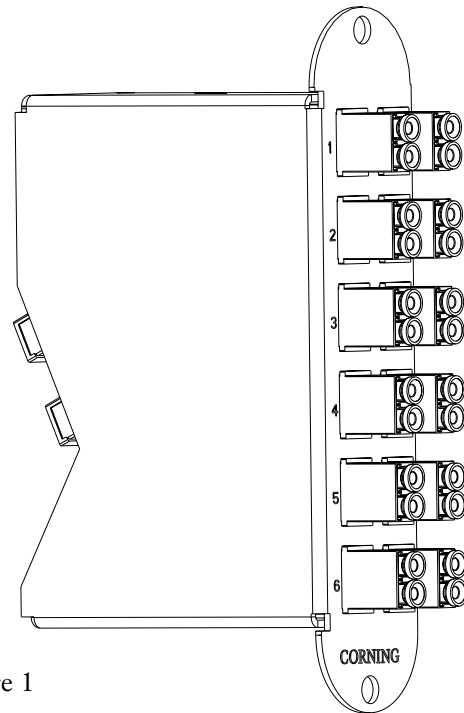

Figure 1
1.1 This document describes the installation and maintenance of the CCH Plug & Play™ System modules introduced in October 2008 (Figure 1).